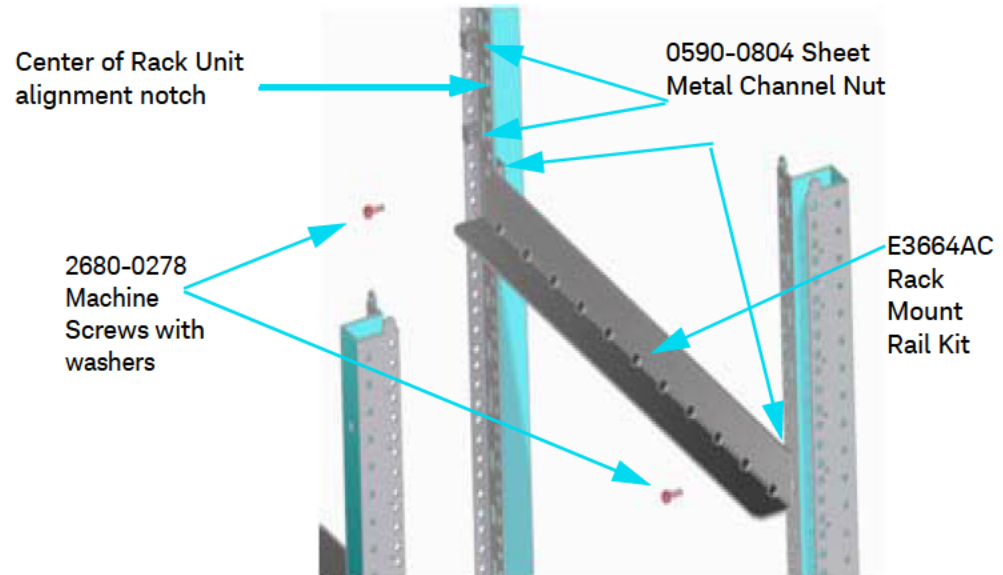

Figure 7 Install Sheet Metal Channel Nuts for Front Brackets and Rails to Rack
- 4 Attach four 0590-0804 sheet metal channel nuts (two on each side for the Front Brackets) onto the backside of the front rack column. See Figure 7.
- 5 Attach rails onto rack columns. Use two 0590-0804 sheet metal channel nuts and 2680-0278 Machine Screws with washer T25 1-32 on each rail. See Figure 7.